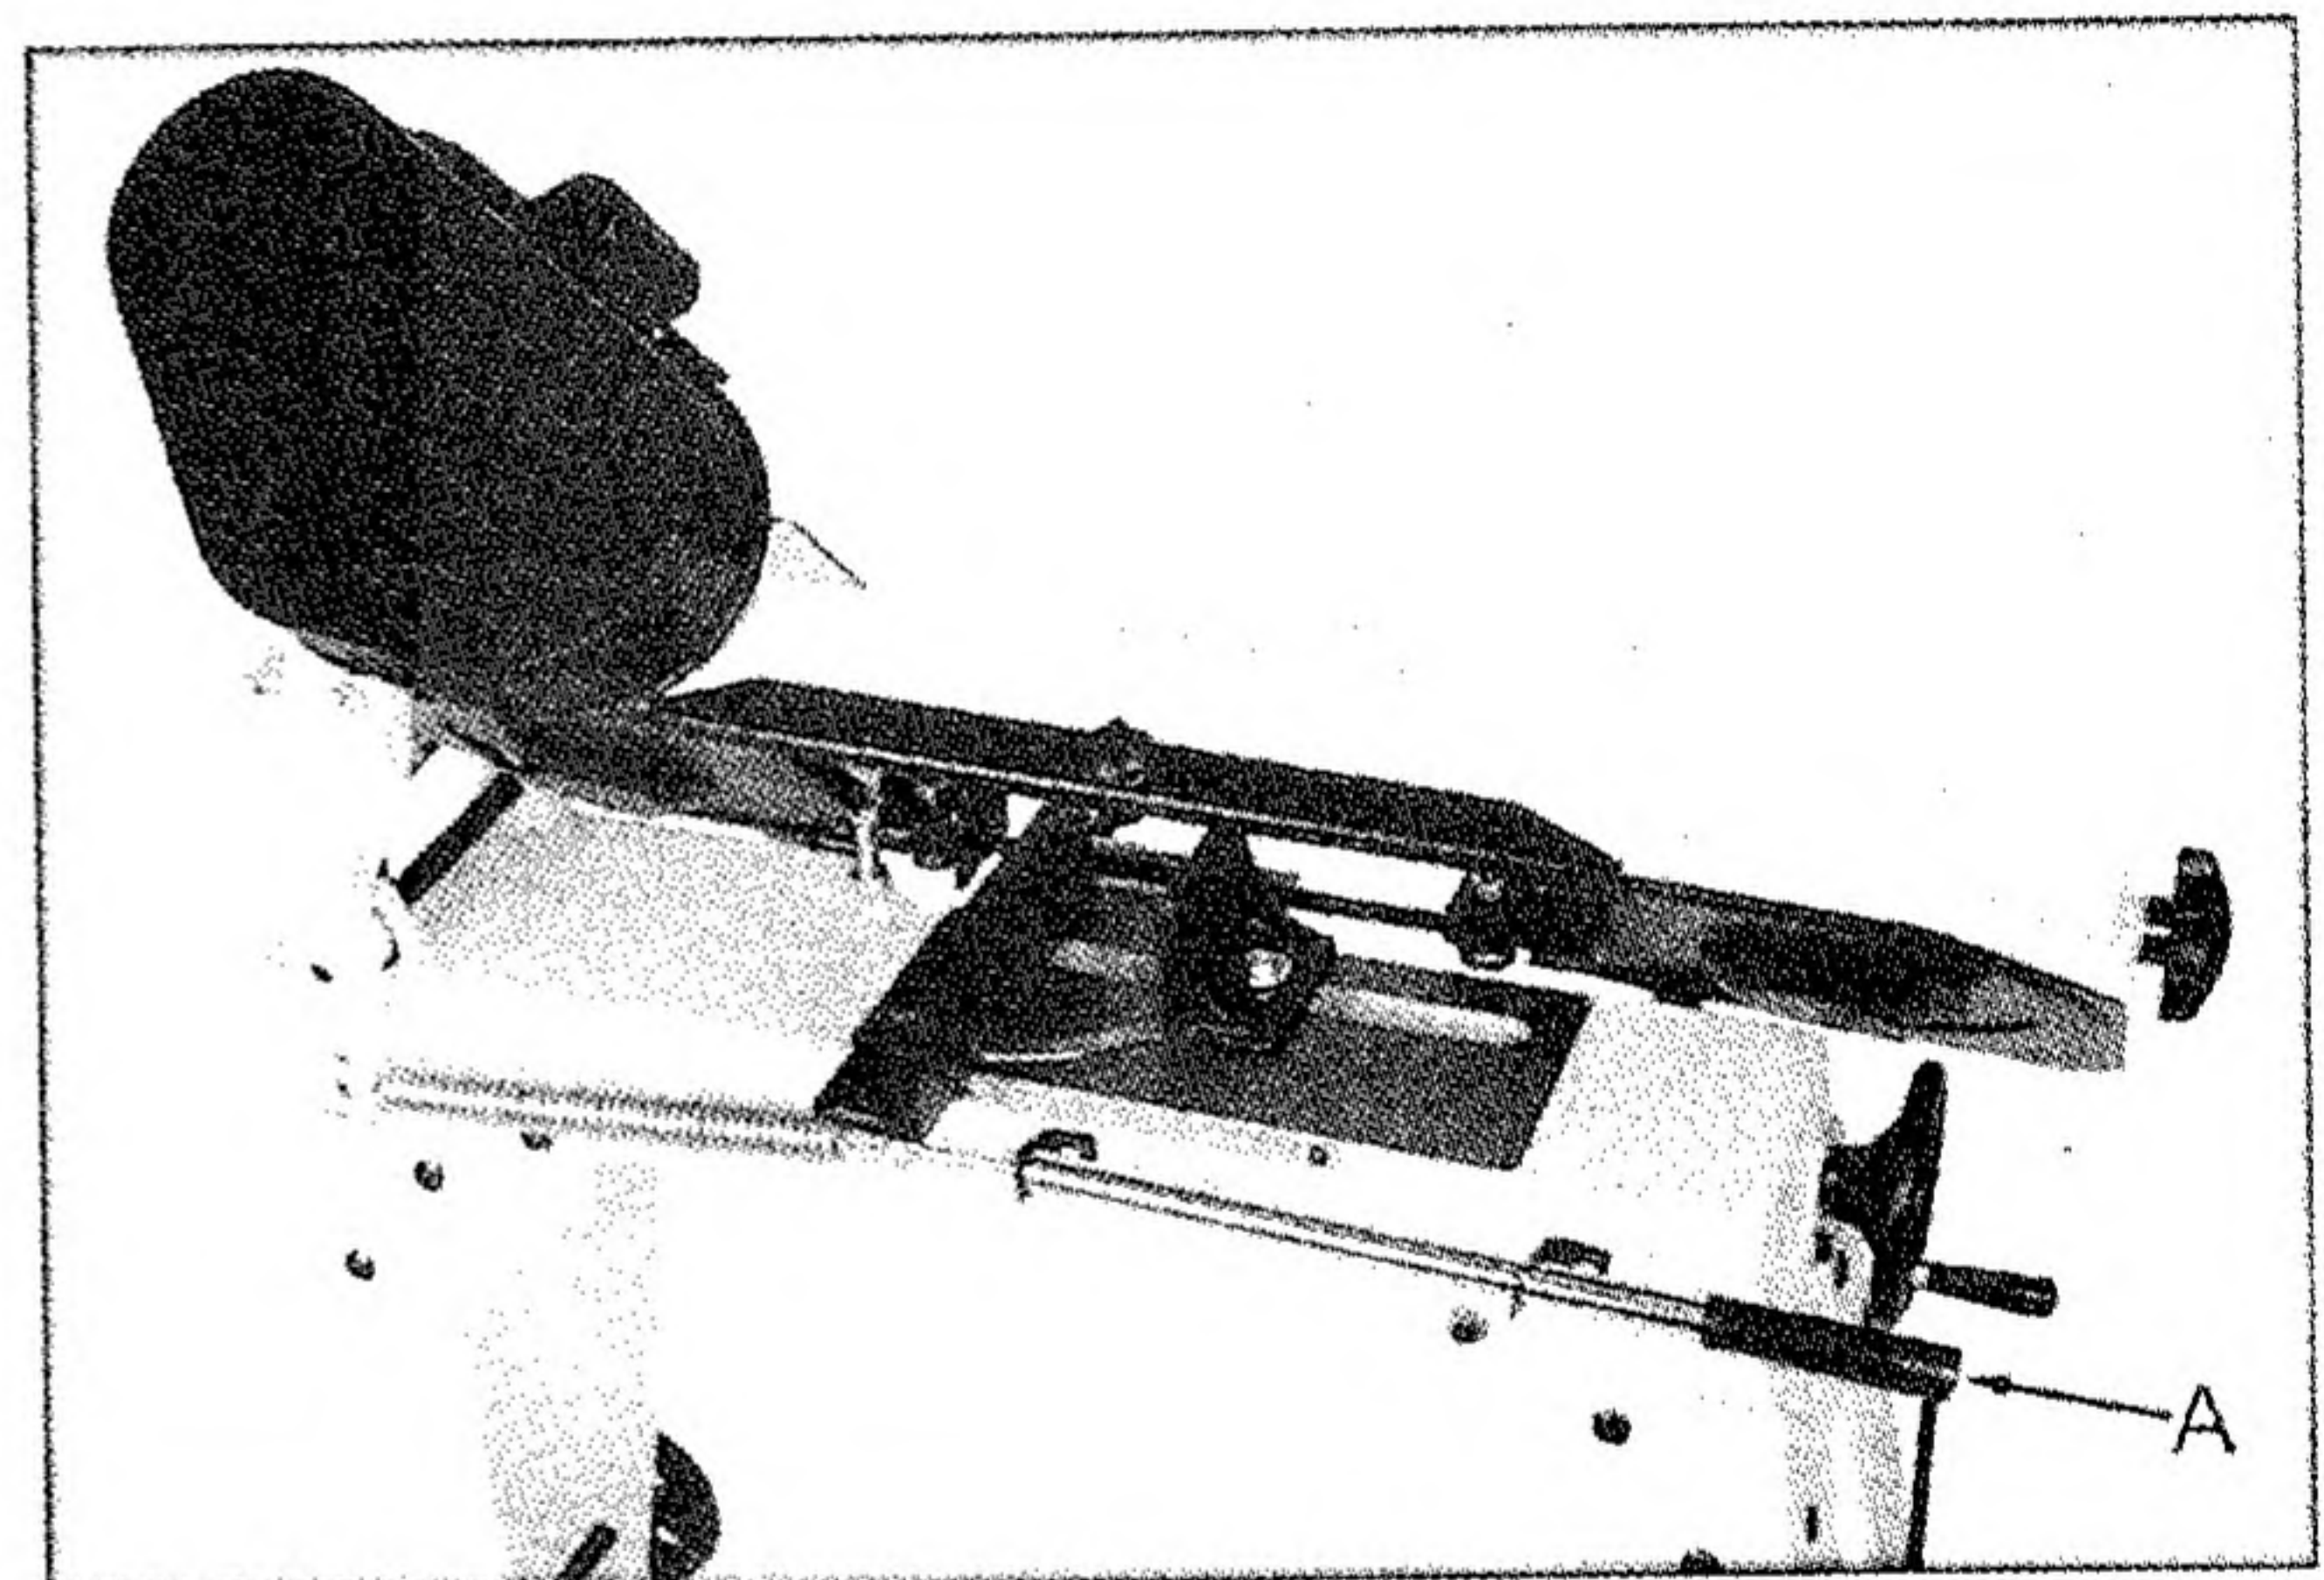

Fig. 16
1. Turn handle (A, Fig. 16) clockwise to decrease cutting pressure and counter-clockwise to increase cutting pressure.